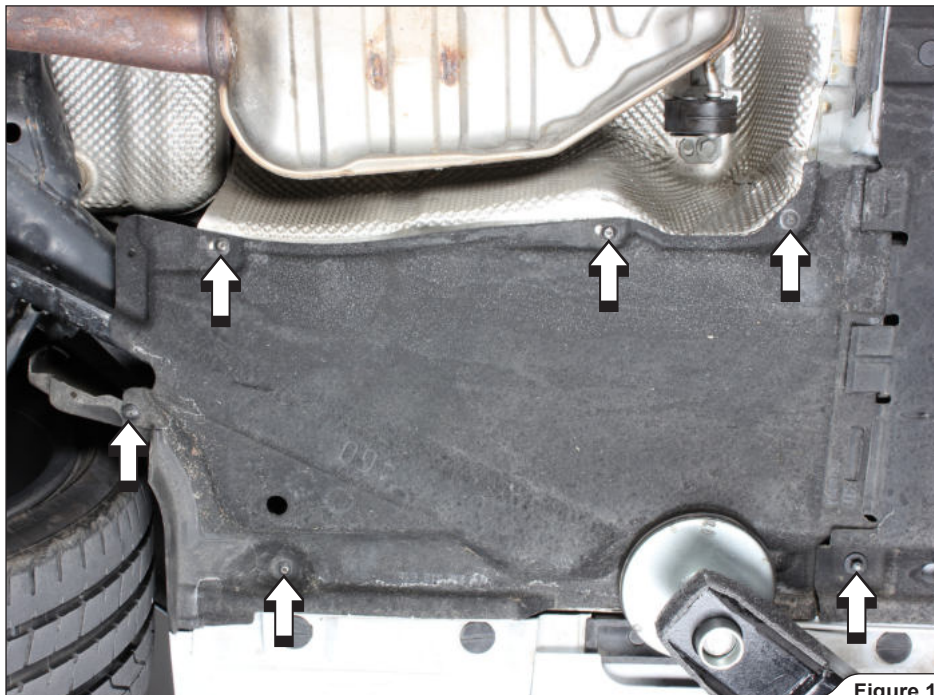

Figure 1
1. Unscrew the marked bolts and nuts, undo the plastic fasteners and partially remove the underfloor panels (Figure 1, 2, 3).